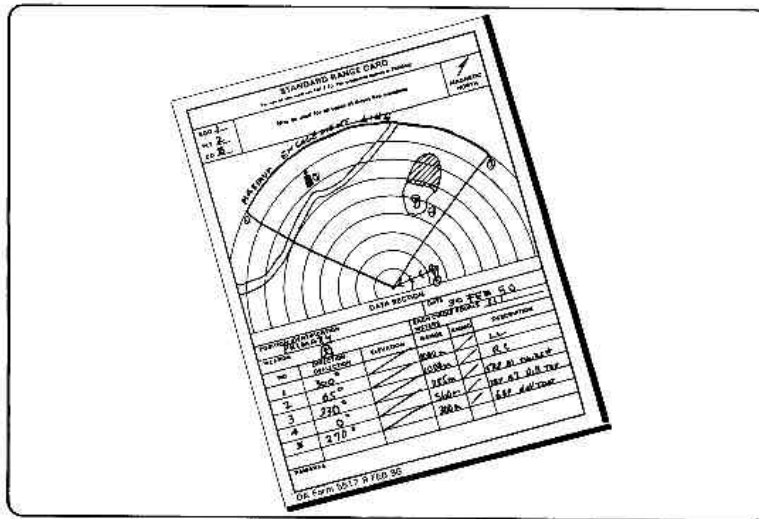

Figure 3-15. Example of completed standard range card, DA Form 5517-R.
(1) Standard Range Card. Once the leader provides the necessary information, the gunner prepares a standard range card (DA Form 5517-R). (See Figure 3-15.) The gunner prepares two copies of the range card.